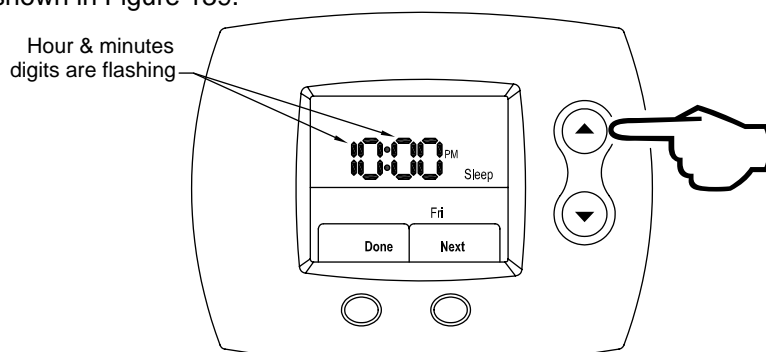

Figure 139
Step 22: Press the **UP** (increase time by 15 minutes) or **DOWN** (decrease time by 15 minutes) buttons to edit the Sleep period start time. The time increments in 15-minute intervals just as it did for the previous periods. This is shown in Figure 139.